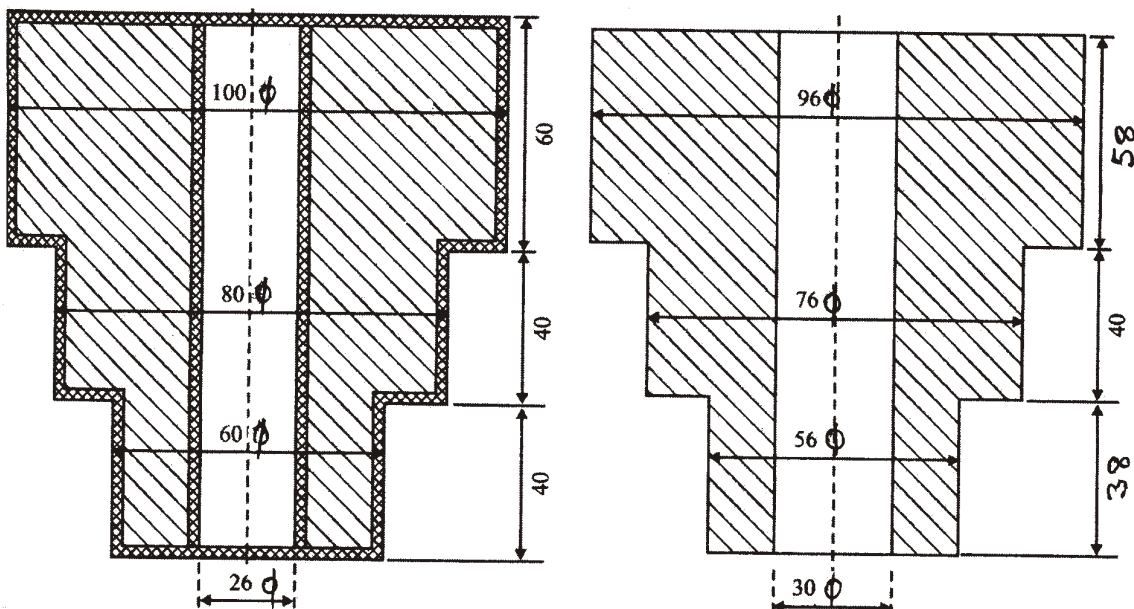

Fig. 4 (a) Component as cast and (b) Finished component
18. A cast iron component is to be manufactured as per Fig. 4. Estimate the selling price per piece from the following data :